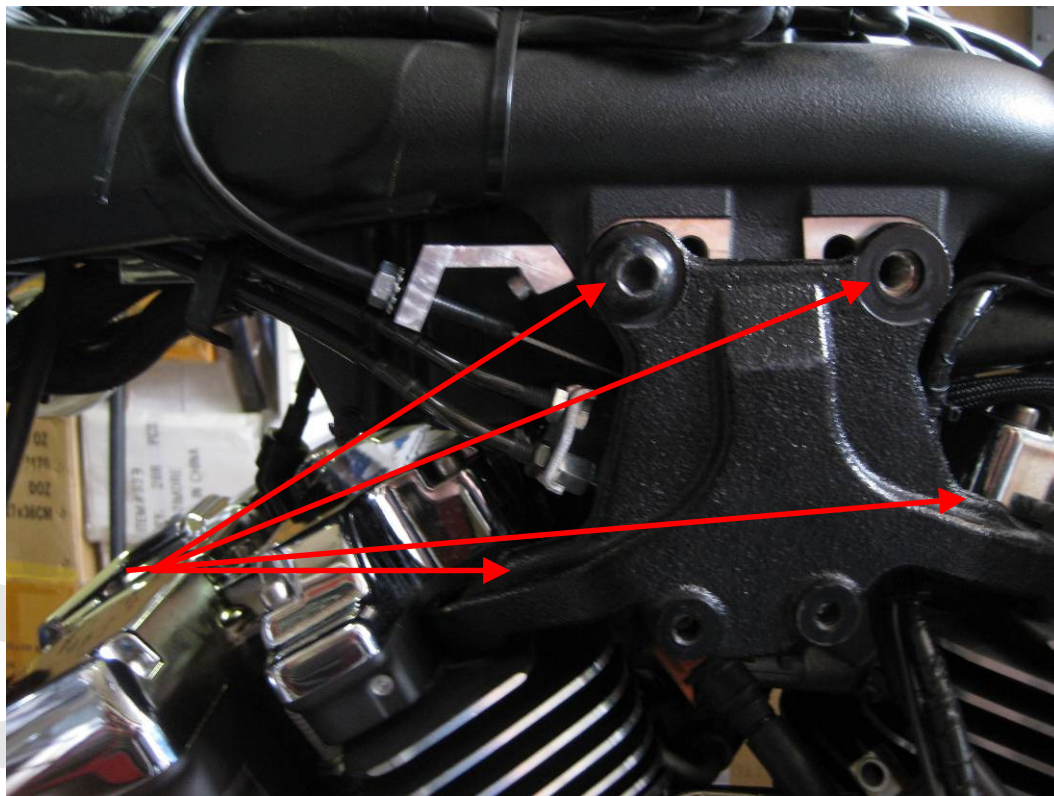

Fig. 26
- Remove the motor mount brace on the left side to give you full access to the bell crank on the throttle body and the frame boss.(Fig.26)